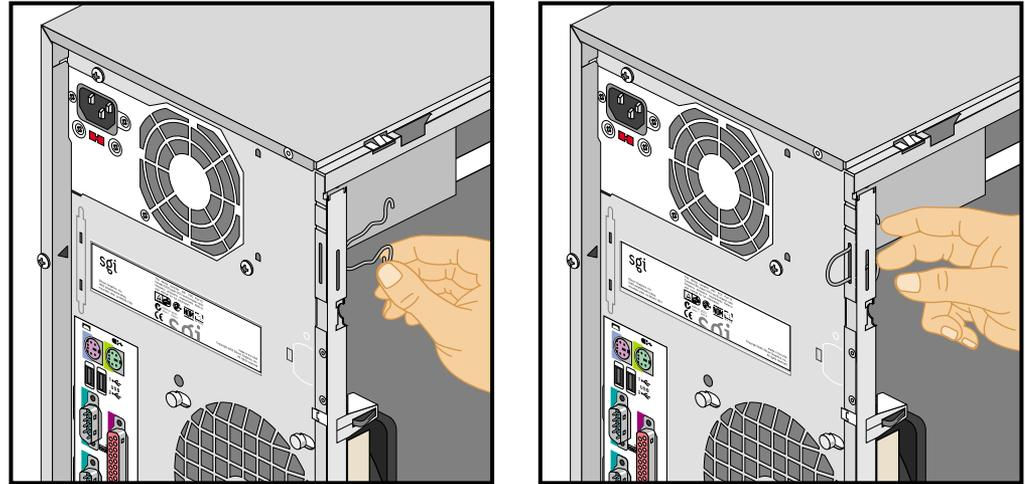

Figure 2-30 Installing Locking Loop in its Functional Slot
5. Insert the loop part of the locking loop into the slot inside the chassis and push the locking loop until it snaps into place. Figure 2-30 illustrates the procedure.